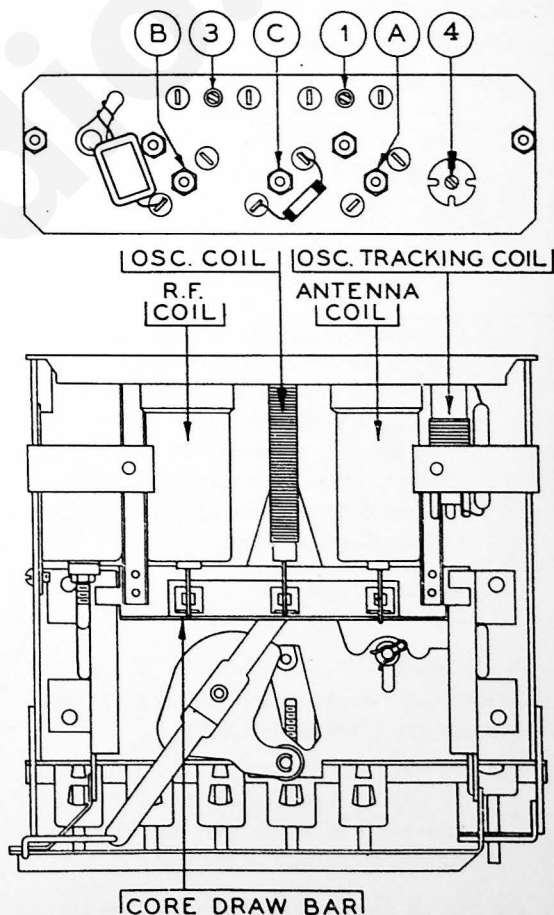

FIGURE 1
- (b) Turn the tuning control knob clockwise as far as it will go so that the cores will be in the extreme "out" position. Set the signal generator to 1600 K.C. and adjust padder (1) (Fig. 1) for maximum signal.
- (c) Adjust padder (2) aerial compensator in radio and padder (3) (see Fig. 1) for maximum signal.
- (d) Set the signal generator at 1400 K.C. and tune the manual control to 1400 K.C. Adjust the R.F. and antenna coils for maximum signal by turning the mounting nuts (A) and (B).
- (f) Set the signal generator at 600 K.C. and the tuning control at 600 K.C. Adjust the screw (4) (see Fig. 1) for maximum signal. Rock the tuning control when making this adjustment. Tune the control to the signal and adjust the screw for maximum output. Rotate the tuning control back and forth slightly until maximum output is obtained. Then readjust the screw until no further improvement is noticed.
- (b) Set up the signal generator to 1600 K.C. and adjust padder (3) (see Fig. 1) for maximum signal.
- (c) Adjust the signal generator to 1400 K.C. and set the tuning control at 1400 K.C. Adjust the coil form by turning the mounting nut (B) until maximum signal is obtained. In case a peak cannot be obtained, it may be necessary to unsolder the piano wire and move the core slightly, either in or out.
- (a) Set the signal generator to 600 K.C. and the tuning control at 600 K.C. Adjust screw (4) (see Fig. 1) for maximum signal. Rock the tuning control while making this adjustment. Tune the control to the signal and adjust the screw for maximum output. Rotate the tuning control back and forth slightly until maximum output is obtained. Then readjust the screw until no further improvement is noticed.
- (b) Check and readjust the aerial compensator (2) in the radio, and padders (1), (2), and (4) as described in 1.
- (b) Set up the signal generator to 1600 K.C. and adjust padder (1) (see Fig. 1) for maximum signal.